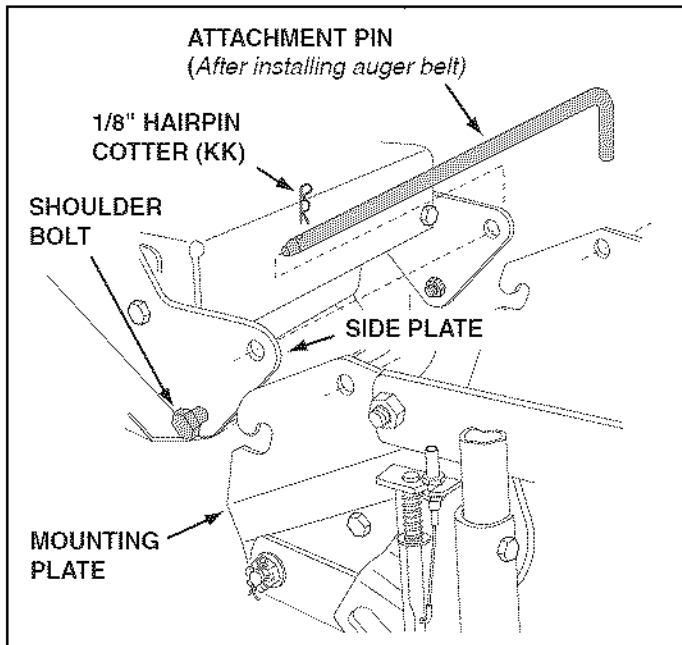

FIGURE 54
STEP 55: (SEE FIGURE 54)
STEP 58: (REFER BACK TO FIGURE 54 ON PAGE 23)
- Lift the front of the snow blower to align the holes in the mounting plates and the side plates. From the left side of the tractor insert the attachment pin through the holes. Secure it with by reinstalling the 1/8" hairpin cotter (OO).